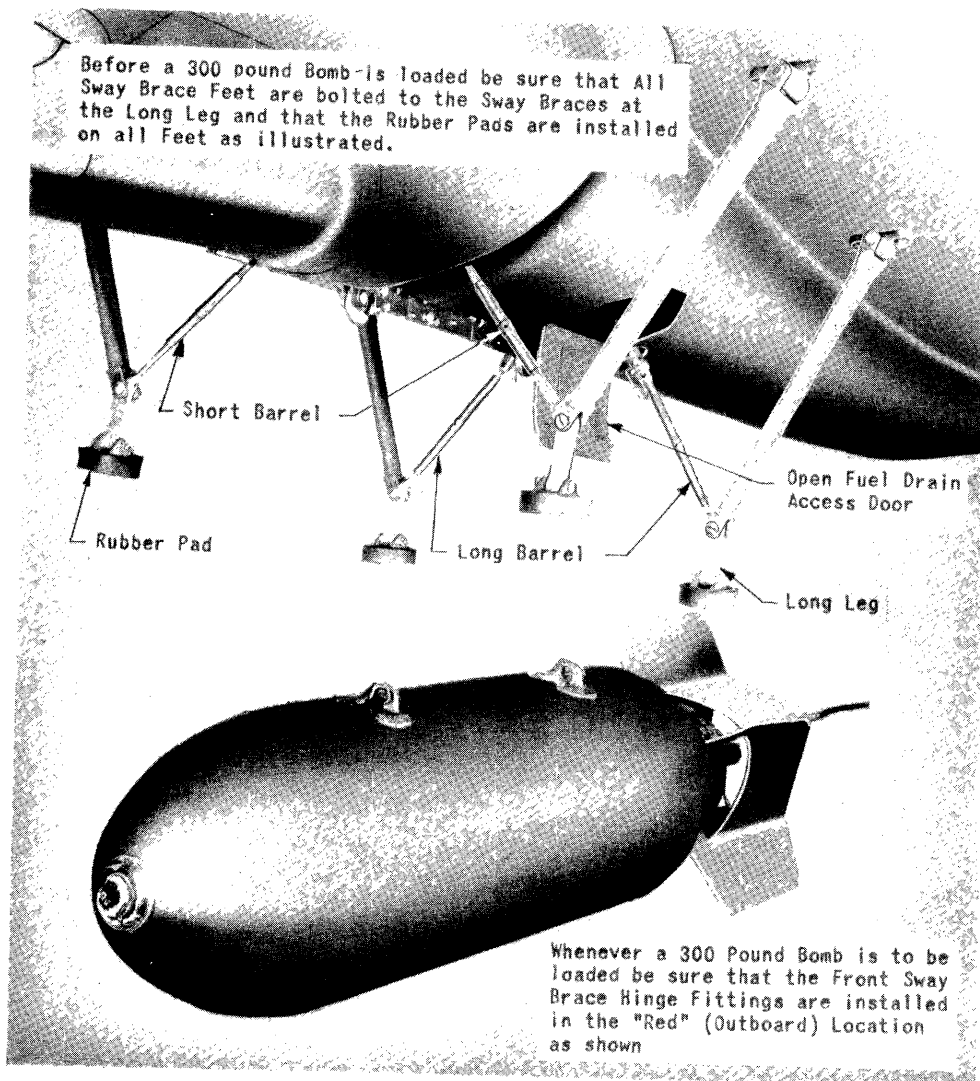

Figure 79 - 300-Pound Bomb Prior to Loading
(1) Move the front sway brace hinge fittings from the "Blue" location (inboard) to the "Red" location (outboard) as illustrated in figure 79. Be sure that the short barrels are installed on the front sway brace turnbuckles. (See figure 79.)
(2) All sway brace feet should be attached with the long angle leg as illustrated in figure 79 and rubber pads should be installed on all sway brace feet as shown in figure 79.